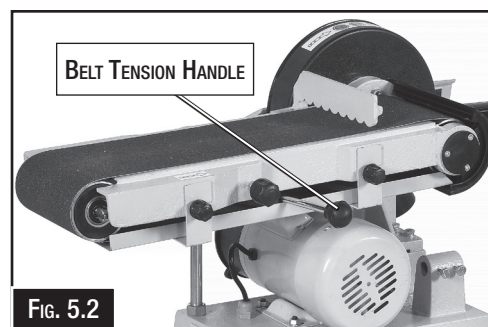

Fig. 5.2
4. Turn the belt tension handle to the left releasing tension on the belt. (Fig. 5.2)